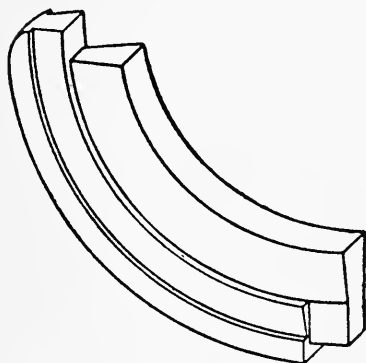
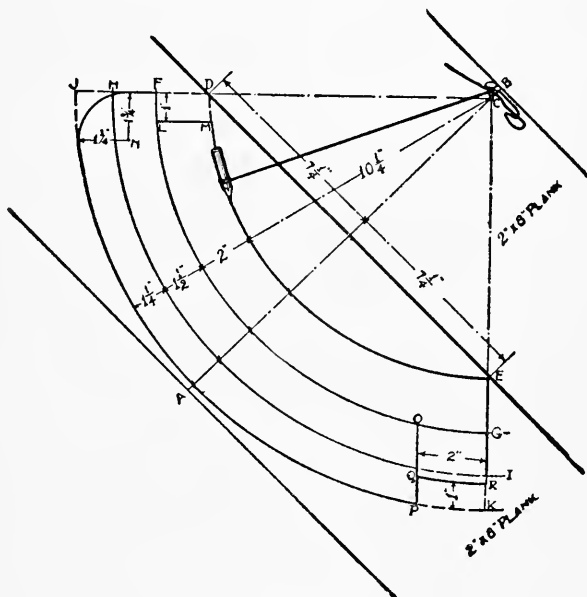
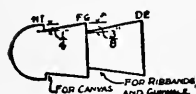

FIG. 200. — Bow and Stern Pieces.
FIG. 201.
FIG. 202. — Section through Bow and Stern Pieces.
**The Bow and Stern Pieces** (see Fig. 200). — The proper way of laying these out on the eight-inch plank is shown in Fig. 201. First cut the plank in half, and then place these two pieces side by side upon the floor or work-bench as shown in the drawing, one piece upon which to draw the pattern, and the other upon which to locate the centre for drawing the curves. Then square the line  $AB$  across the planks,
**Drawing the Curves** is with a piece of cord, to one end of which a pencil has been tied (see Fig. 201). With this as your compass, hold the end of the cord at  $D$  for a centre, and with a radius of ten and one-quarter inches strike an arc cutting the line  $AB$  as at  $C$ .  $C$  is now the required centre for drawing the curves. Drive a small nail into the plank at  $C$ , and wind the end of the compass cord around it until the correct length of radius is obtained (see drawing). Describe the arc  $DE$  with a radius equal to  $CD$ , or ten and one-quarter inches.
in the drawing. At the lower end of the pattern draw the line  $OP$  two inches from and parallel to  $GK$ , and the line  $QR$  one inch from and parallel to  $PK$ . Having carefully drawn out this pattern, turn over the plank and draw the same thing upon it, locating the points exactly opposite one another, by squaring lines across the sides and edge. Prepare the other piece of plank similarly. To cut out the patterns, place them in the vise of your work-bench, one at a time, and rabbet the surfaces between  $DE$  and  $FG$ , and  $FG$  and  $HI$ , as shown in the section drawing, Fig. 202. This done
reverse the piece and do the same to that side. When these surfaces have been trued up carefully, remove the piece from the vise and saw the pattern from it. In doing this, first saw along the lines  $DJ$  and  $EK$ , and cut out the corners  $FLMD$  and  $PQRK$ . Then follow roughly the curves of lines  $DE$  and  $JP$ , after which place the work in the vise and trim them off nicely with a draw-knife, rounding the outer curve as shown in Fig. 202. The portion  $OQRG$  should be cut down to a plain surface as shown in Fig. 200.
**The Gunwales**, and after locating the exact centre of each, screw them at this point to the ends of the mould just below the top. Drive these screws but part way in, as the mould is to be removed later on. Commencing at the bow end of the canoe, draw the end of one gunwale to the bow piece, and, after marking it the correct length cut it off so it will fit nicely in the rabbet cut in the side of the bow piece. Then screw the other end to the stern piece, after which attach the gunwale on the opposite side in the same way (see Figs. 200, 205, and 206).